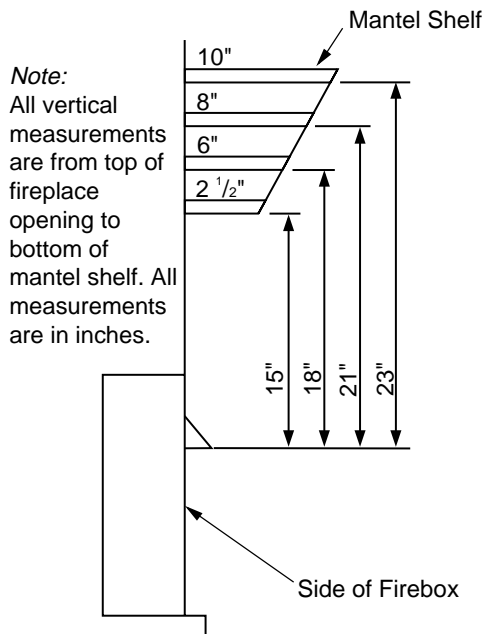

Figure 10 - Minimum Mantel Clearances for Built-In Installation
- For mantel clearances, see Figure 10 on page 10.
Built-in installation of this fireplace involves installing fireplace into a framed-in enclosure. This makes the front of fireplace flush with wall. An optional brass trim kit accessory is available (see *Accessories*, pages 36 and 37). Brass trim will extend past sides of fireplace approximately 1/2 inch. This will cover the rough edges of the wall opening. If installing a built-in mantel above the fireplace, you must follow the clearances shown in Figure 10, page 10. Follow the instructions below to install the fireplace in this manner.